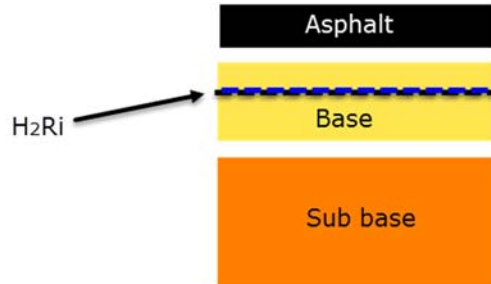

Figure 3 - Close to the pavement structure as possible
3. Surficial Intrusion: Placement should be as high in the structural section as possible as shown in Figure 3. The Mirafi® H2Ri wicking geosynthetic should have a minimum of 6” (150 mm) compacted aggregate coverage. It is not possible to pave directly on Mirafi® H2Ri.